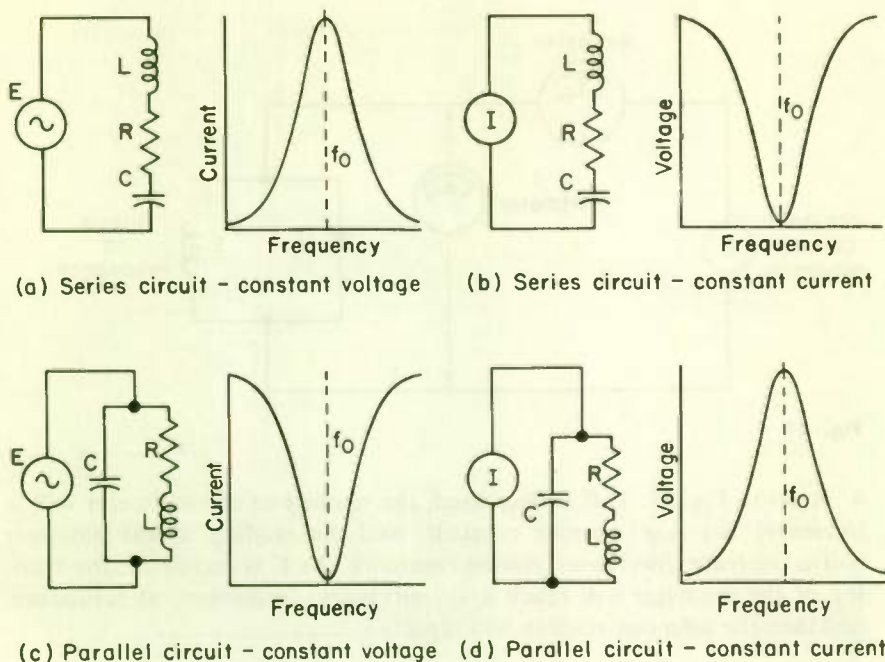

Fig. 20 Constant-voltage and constant-current LC circuit frequency response.
Figure 20 shows the difference in frequency response for series and parallel LC circuits used with constant-voltage and constant-current sources. You have already studied the series LC circuit of (a) across a constant-voltage source. The LC circuit impedance is low at resonance, so that the current reaches its maximum value at resonance as shown. In (b) a constant current flows through the series LC circuit. The voltage across the entire circuit is, of course, $E = IZ$. With I constant, the voltage will be proportional to Z . Since the impedance Z is a minimum at resonance, the voltage reaches a minimum at resonance.
The parallel LC circuit of Fig. 20(c) is another one with which you are already familiar. The impedance reaches a maximum at resonance, and therefore the current, equal to E/Z , is minimum at the resonant frequency. If a constant current rather than a constant voltage is applied, the voltage, equal to IZ , is proportional to the impedance. Therefore, in (d) the voltage is maximum at resonance.
5. (a) Decrease (b) Minimum (c) Increase ... See Fig. 20(b).
6. (a) Increase (b) Maximum (c) Decrease ... See Fig. 20(a).